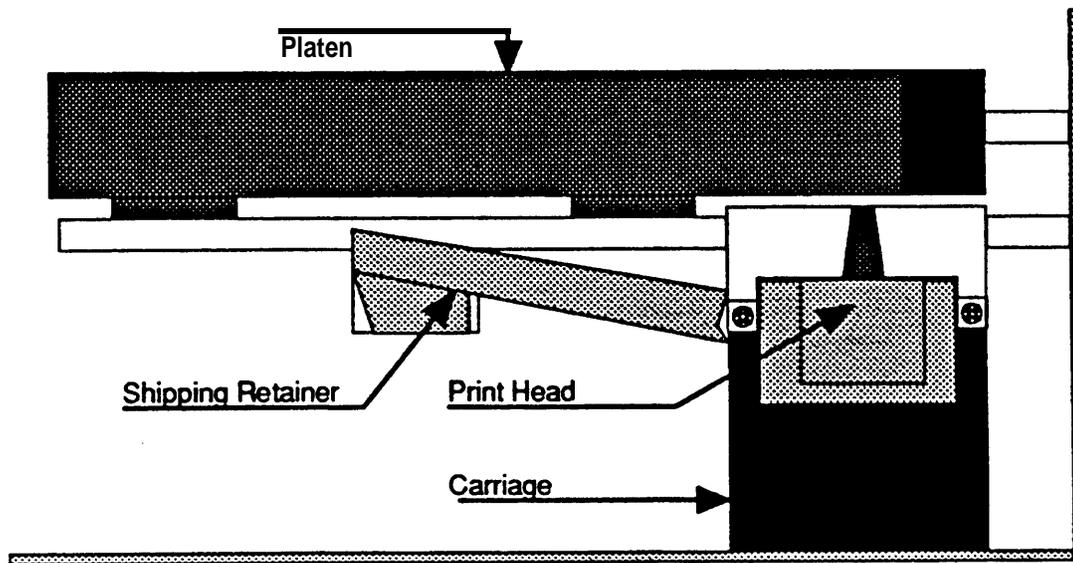

Figure 2-3. Location of Shipping Retainer
Before installing the CAT, verify that the internal jumpers have been properly set and that the EPROM containing the rate tables has been installed. Refer to Figure 2-3 while following these steps:
3. Verify that the jumpers are set in the *normal* position as shown in Figure 2-3. If necessary, change the jumpers to match.
4. Verify that the EPROM is installed in the socket with the notched end of the EPROM toward the handle. If necessary, reseal the EPROM using the instructions in Figure 2-3.